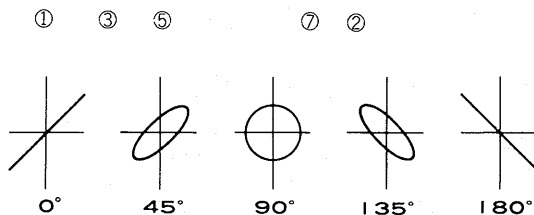

Fig. 3
5. Adjust VERTICAL and HORIZONTAL GAIN controls to obtain a pattern as shown in fig. 3, 0°, (45 degree upward slanted line).
6. Push DISPLAY SWITCH No. 2. Pattern will be a Lissajous pattern composed of signals 1 and 2 (1: vertical, 2: horizontal). If both signals have exactly the same frequency, patterns as in fig. 3 can be obtained.